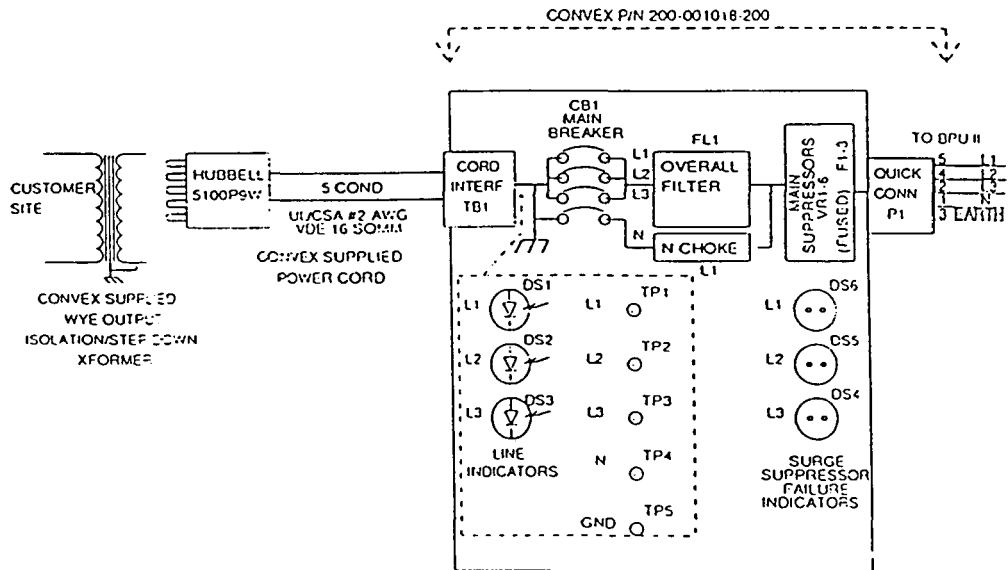

Figure 1-2
2.1 Input Power Harmonizer (Figure 1-2)